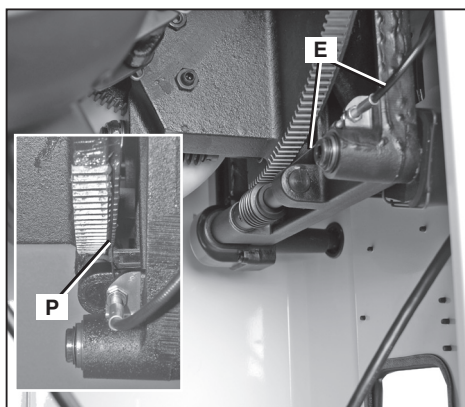

FIG. 83
BEVEL INDICATOR CABLE (E) Fig. 83: Keep the cable (E) and mating slot (P) free of dust and debris buildup. Blow out area regularly with compressed air.
AS NEEDED, GREASE THE WORM GEARS (F) and (G) Fig. 84: Keep the worm gears free of dust and debris buildup. Blow out area regularly with compressed air. Use a lithium-based multipurpose grease as needed on these gears. When greasing gears, be careful and do not get any grease on the bevel indicator cable (E) Fig. 83.